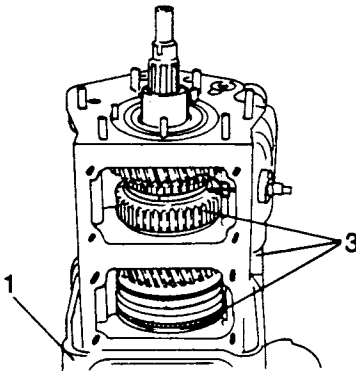

Fig H1.60
(3) Refer to Fig H1.60. Position the gearbox assembly vertically with the clutch housing (1) downwards.
(5) Remove the gearbox, casing, sliding it upwards and taking care not to disturb the 1st, 2nd, 3rd and 4th synchro units ((3) on Fig H1.60).